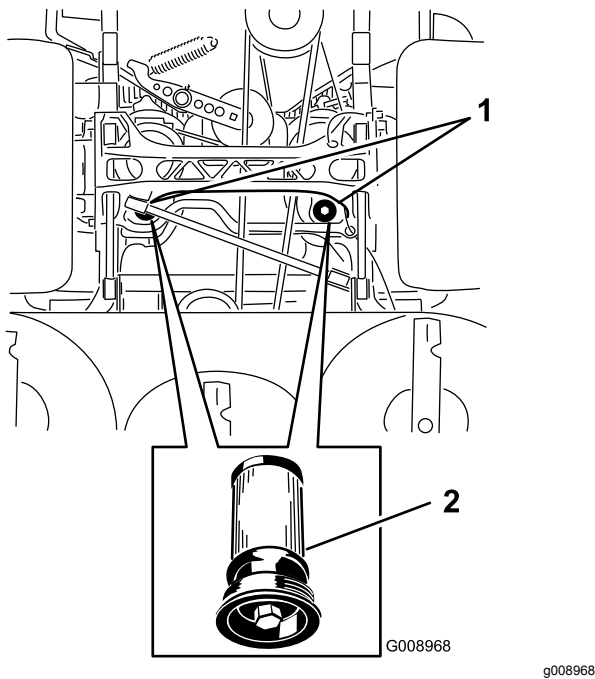

Figure 93
5. Place a drain pan under the filter, remove the old filter and wipe the surface clean (Figure 93).
6. Apply a thin coat of hydraulic oil to the rubber gasket on the replacement filter (Figure 93).